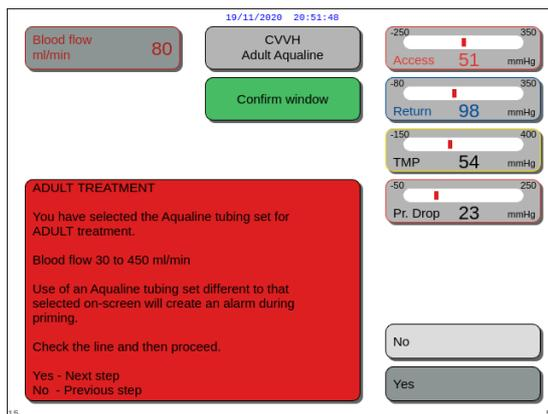

Fig. 36
- ▶ Depending on which tubing set was chosen the following *Confirm* window appears: see Fig. 36 or 37.